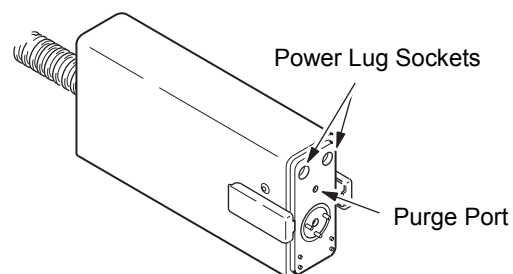

Figure 27 Cleaning the Power Lug Sockets and the Purge Port
2. Clean the motor module power lug sockets with the provided stainless steel brush. See Figure 27.
3. Carefully remove any obstructions from the purge port. See Figure 27.